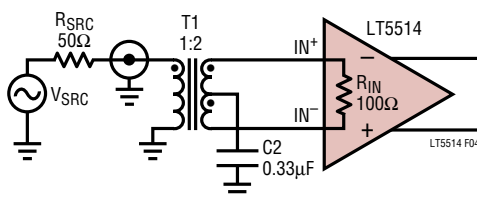

Figure 4. Input Transformer-Coupled to a Single-Ended Source
- Provide well balanced differential input drive (capacitor C2 in Figure 4)
- Minimize insertion loss to avoid degrading the noise figure (NF)